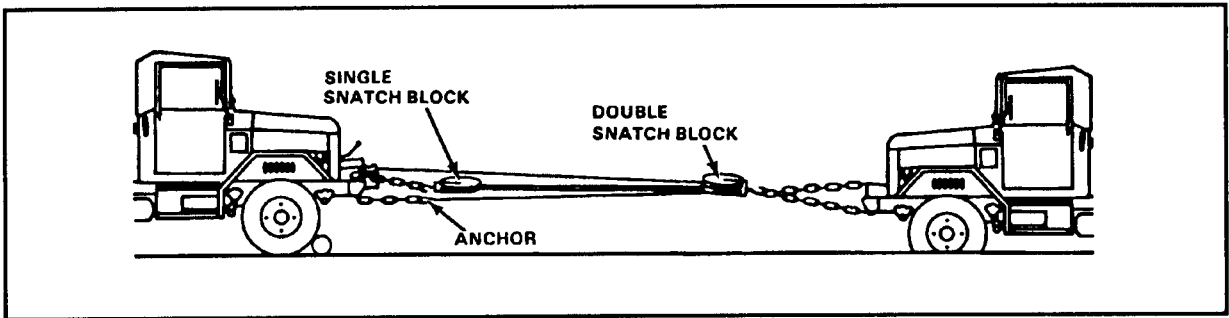

FIGURE 22-8. Four-Part Line.
*Four-Part Line.* To get a 4:1 mechanical advantage, use two snatch blocks – a double-sheave block for the load and a single-sheave block for the winch vehicle (Figure 22-8). Thread the winch cable through one sheave of the double block attached to the load back through the single sheave on the winch vehicle, and again to the load through the second sheave of the double block. Finally secure it to the winch vehicle.